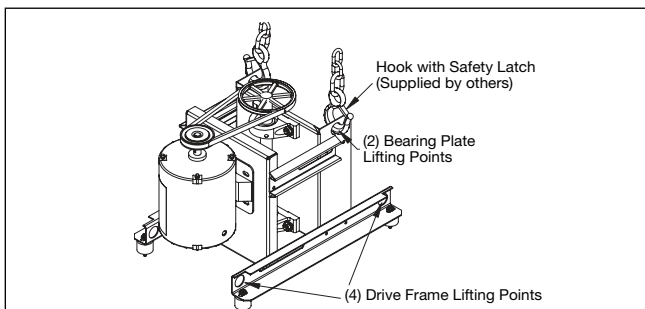
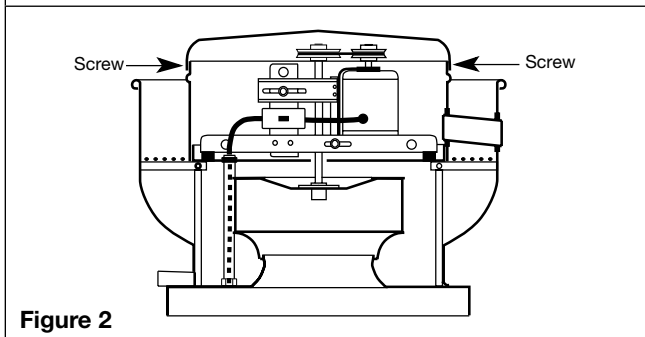

Figure 1
Figure 2
When lifting the unit onto the roof, use either the four lifting points on the drive frame or the two lifting points on the bearing plate if present, see Figure 1 for lifting points. Access to the drive frame is accomplished by removing the screws pointed out in Figure 2. The cover can then be removed and placed on a flat surface in an area protected from strong winds.
2. Remove motor cover. Access to the motor compartment is accomplished by removing the screws as shown on page 2, Figure 2.
3. Use the lifting lugs on the drive frame to lift and place the unit on top of roof curb. Refer to page 2, Figure 1.